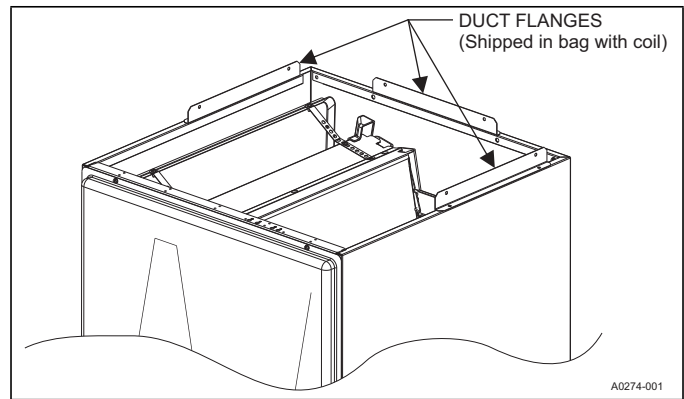

FIGURE 4: Duct Flanges - Coils CF / CM
Three duct flanges are provided to attach ductwork to the coil. The flanges are included in the parts bag along with three tie plates. Tie plates are used to secure the coil to the furnace or to the modular air handler as shown in Figures 4 - 8. Using the screws included in the parts bag, duct flanges are attached as shown in Figure 4 (to secure the duct to the coil). If the flanges are not used, they may be discarded.
- Place the three duct flanges (from bag with coil) in mounting positions of the upper air flow opening on the coil, and secure with screws from the bag as shown in Figure 4.
- Install the three duct flanges with screws (from bag with coil) in positions shown in Figure 4.